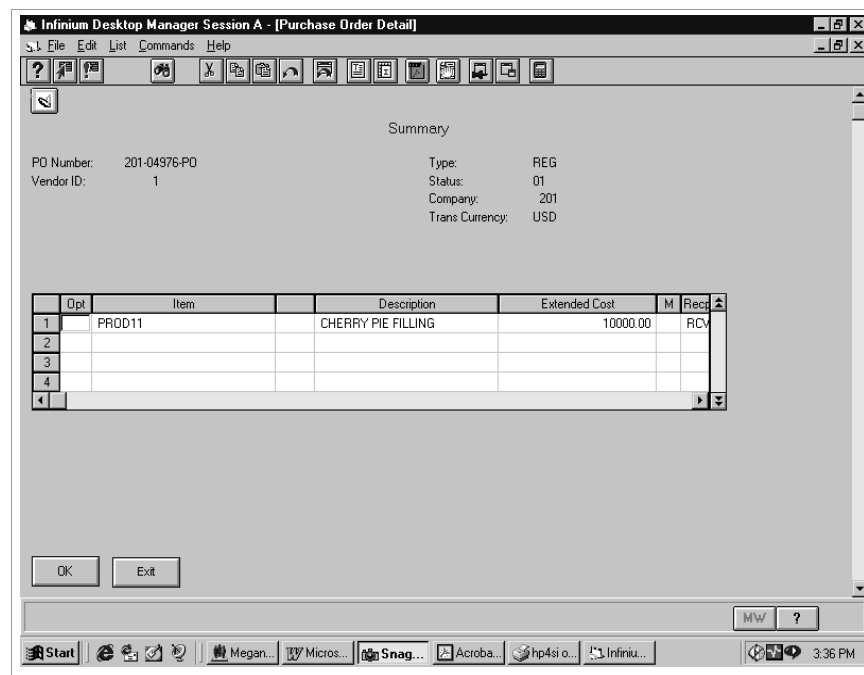

Figure 5-10: Purchase Order Detail Summary screen
- 2 Select **Work with** or type **5** and press Enter. The system displays the screen shown in Figure 5-10.
- 5 You can press F11 at the Purchase Order Detail Summary screen shown in Figure 5-10 to display more information for the selected detail line as shown in Figure 5-11. This is an optional procedure.
- 7 Select an item at the Purchase Order Detail Summary screen shown in Figure 5-10 to display detailed information about that item. Select **Display** or type **8** and press Enter. The system displays the screen shown in Figure 5-12.
- 8 When done, exit or cancel to return to the Purchase Order Detail Summary screen shown in Figure 5-10.
- 1 To select at the multi-ship level, select a detail line item at the Purchase Order Detail Summary screen shown in Figure 5-10. Select **Work with** or type **5** and press Enter. This option is valid only for line items that display an **M** in the *M* (multi-ship) column.